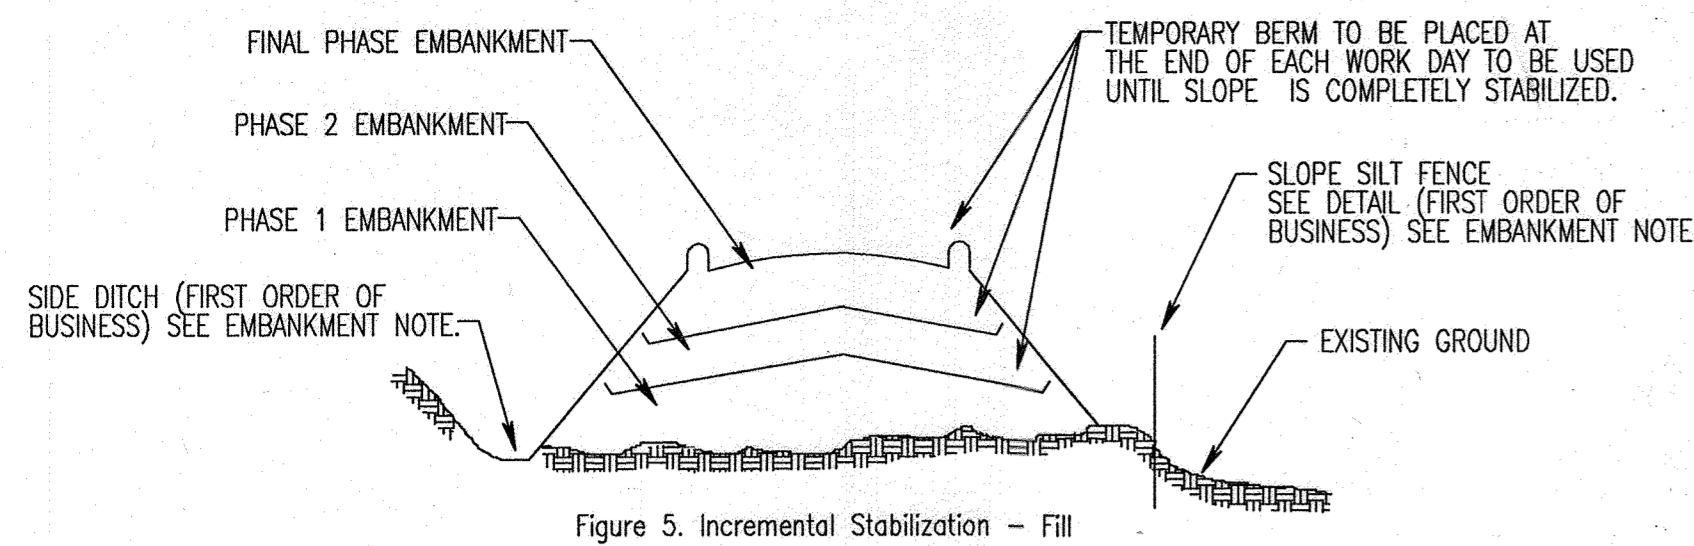

Figure 5. Incremental Stabilization - Fill
- iv. Construction sequence: Refer to Figure 5 (below).
- a. Excavate and stabilize all temporary swales, side ditches, or berms that will be used to divert runoff around the fill. Construct Slope Silt Fence on low side of fill as shown in Figure 5, unless other methods shown on the plans address this area.